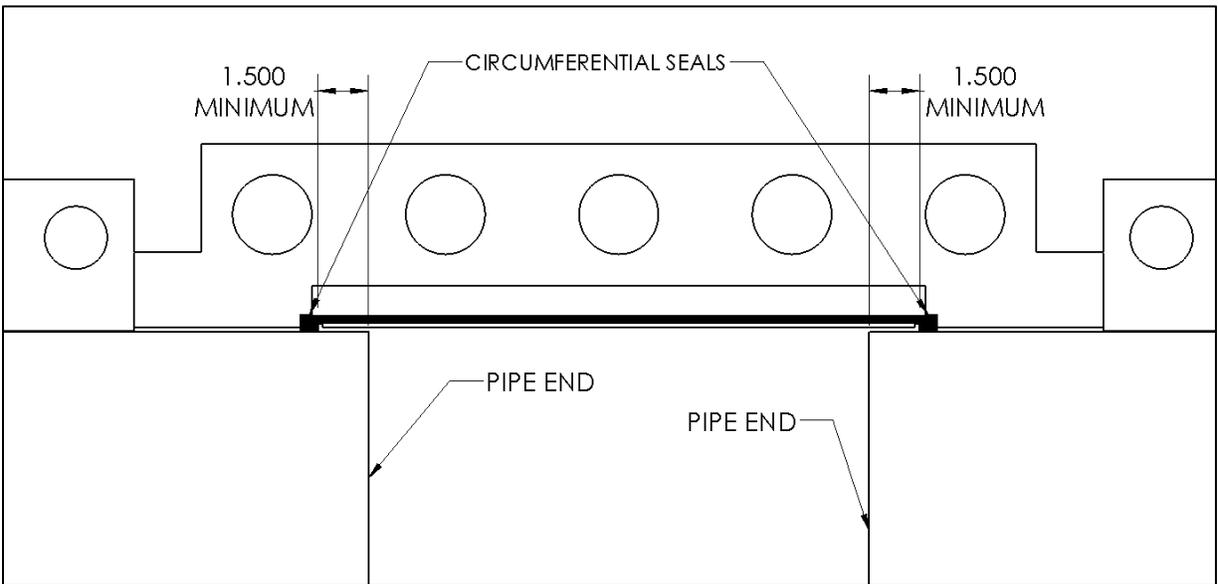

Figure 7
8. If the PLIDCO Clamp+Sleeve is being used to join pipe ends, the allowable gap between the pipe ends is dependent on the internal length between circumferential seals of the PLIDCO Clamp+Sleeve. The pipe ends must extend past the circumferential seals by approximately 1½ inches (38 mm) as shown in Figure 7. A standard PLIDCO Clamp+Sleeve has a straight bore which does not allow for angular misalignment of the two pipe ends.